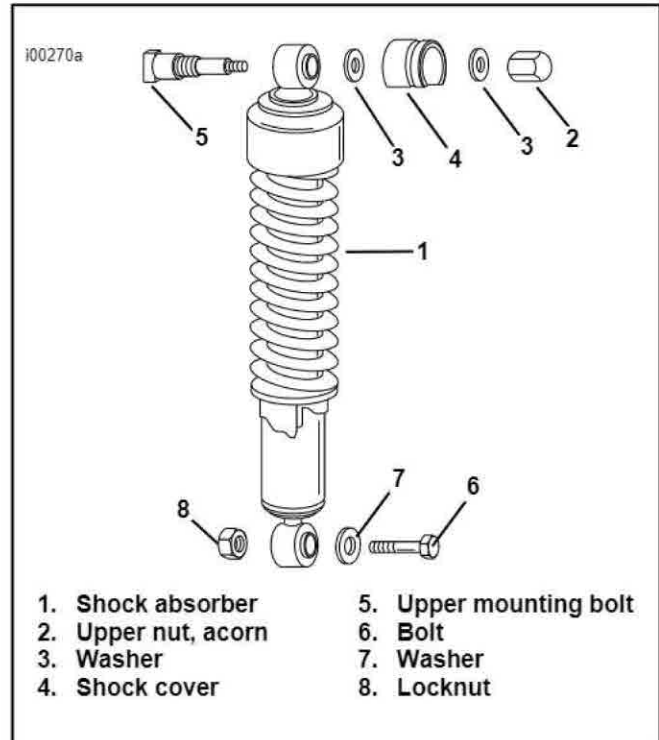

Figure 1a. Shock Absorber Removal Hugger Models Only
4. See Figure 1a. With rear fender and frame securely supported, remove left and right shocks by removing upper nut (2), washer(s) (3) and shock cover (4). Remove bolt (6), washer (7) and locknut (8) at lower shock mount. Remove shock.
5. See Service Parts illustration. Install long 4-1/2 in. bolt (11) from kit, from inside of fender out through rear holes where button head screws were removed in Step 3.
6. Reinstall shocks using original hardware. Torque acorn nut (2) to 21-35 ft-lbs (28.5-47.5 N-m). Torque locknut (8) to 30-50 ft-lbs (40.7-67.8 N-m).